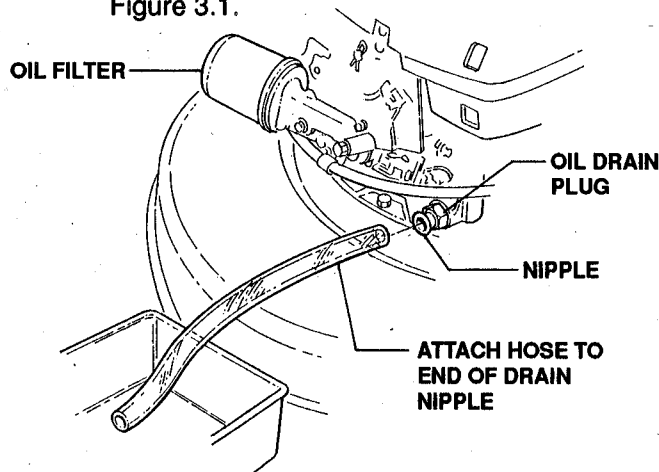

FIGURE 3.1
5. Using a wrench, turn the oil drain plug counter-clockwise until the engine oil drains freely. See Figure 3.1.